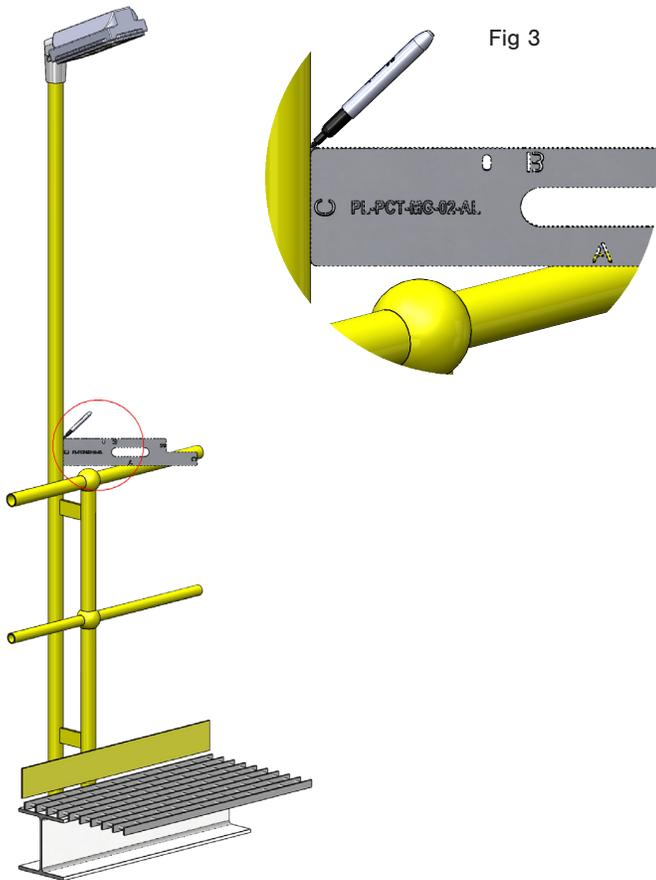

Fig 3
- Hold marking tool horizontally, resting Edge 'A' on top of the handrail, with Edge 'C' against the pole, follow along Edge 'B' and mark the cut. (Fig 3)